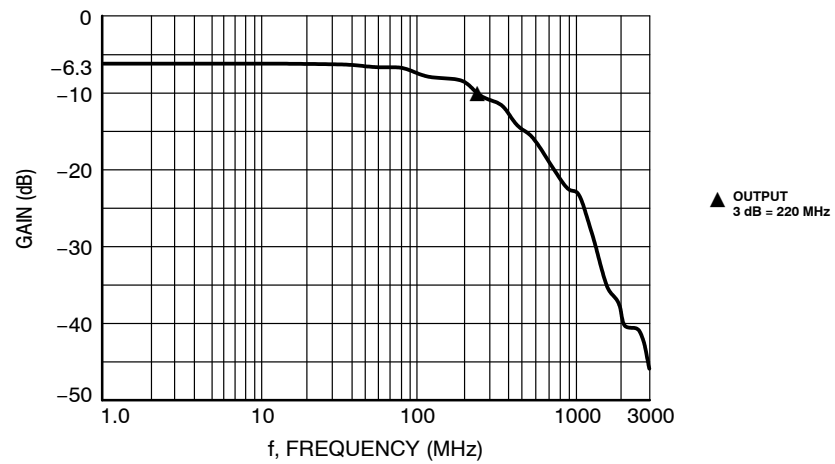

Figure 2. Typical EMI Filter Response
- Nominal Cutoff Frequency of 220 MHz (per Figure 2)
2. 50  $\Omega$  Source and 50  $\Omega$  Lead Termination per Figure 2.